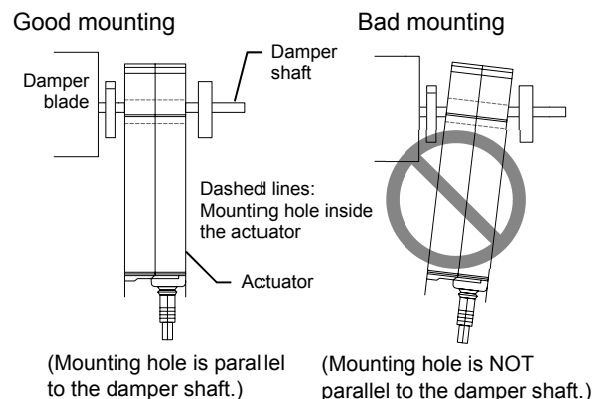

Figure 11. Good and bad mounting orientation for min. 85 mm long damper shaft
Position the actuator mounting hole line parallel to the damper shaft, as shown in Fig. 11 and tighten the hexagonal nuts of the clamp.
- 10) Fix the actuator with the universal bracket on the duct. Insert the pin of the universal bracket into the notch of the actuator to fix the actuator on the duct. See Fig. 11.
- 9) Fix the actuator with the universal bracket on the duct. Insert the pin of the universal bracket into the notch of the actuator to fix the actuator on the duct. See Fig. 11.